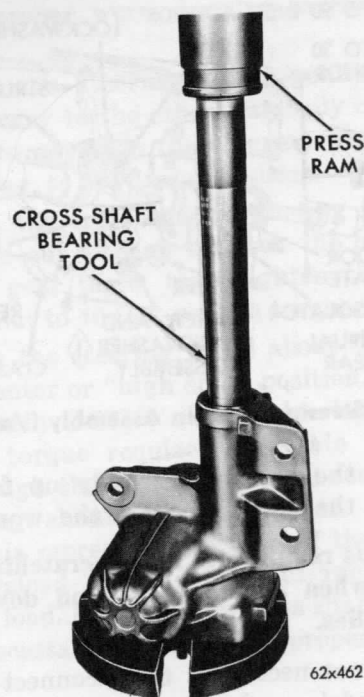

Fig. 10—Removing Cross Shaft Inner and Outer Bearings (Tool C-3875)
(10) Remove the cross shaft needle bearing (if so equipped) by placing the steering gear housing in an arbor press; insert C-3875 tool with adapter ring in lower end of housing (Fig. 10) and press both bearings through the housing.